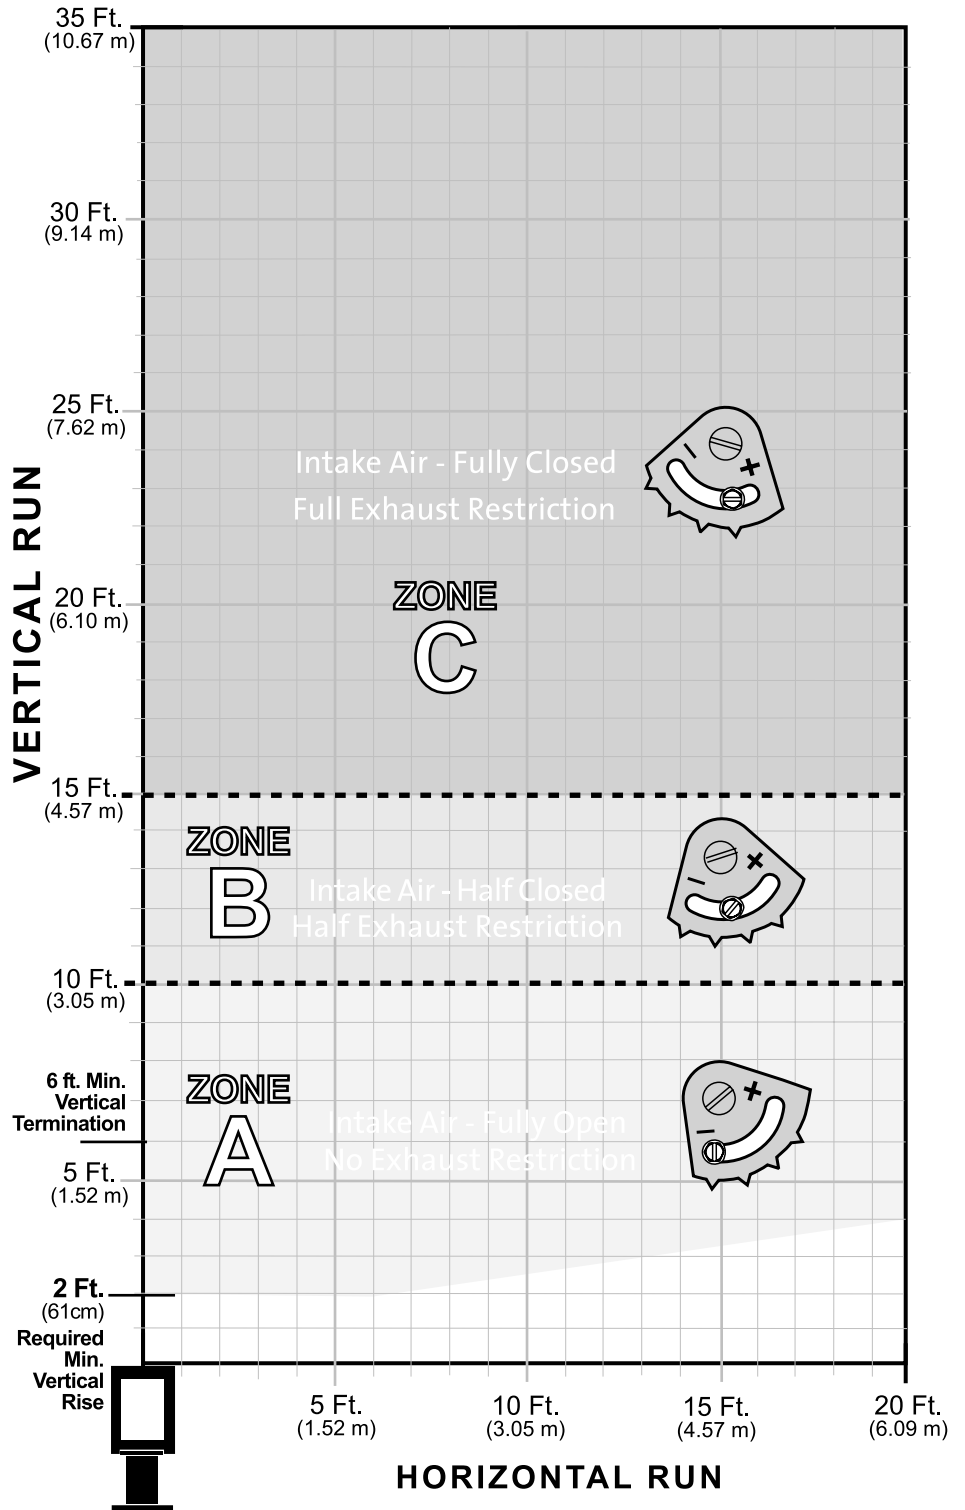

Figure 6.13. Vent Termination Diagram.
Use the Vent Termination Diagram, fig. 6.13, to determine which zone your vent termination falls within and make the appropriate exhaust and air intake setting adjustments. Use these settings as general guidelines to start from. The final settings will ultimately be determined by the individual characteristics of your particular installation.
2. Loosen the locking screw and turn the restrictor pivot plate to the appropriate indicator point as specified in the vent window diagram, figure 6.13. After the burner has been operating for 15 minutes, make any further adjustment in 1/8” increments until the desired flame picture is achieved. **Do not exceed the fully closed setting as shown in fig. 6.11.** Operate the burner for 10-15 minutes between additional adjustments.